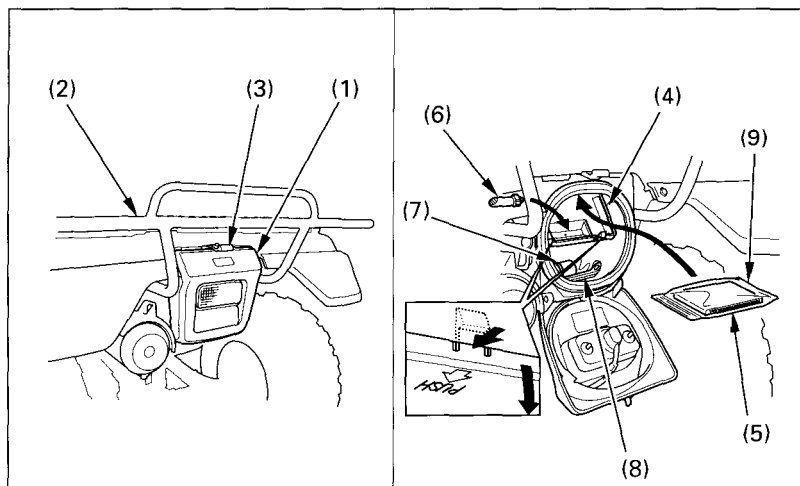

Fig. 2-32 (1) Storage compartment
The storage compartment (1) (Fig. 2-32) is below the rear cargo rack (2).